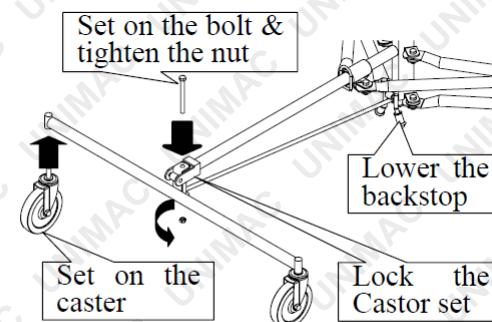

Fig. 3
- e. To prevent the tripod base from rolling backward during assembly, lower the backstop as shown in Figure 3.
To prevent the drywall from overturning, turn the caster set lock to the locking position as shown in Figure 3 while working.